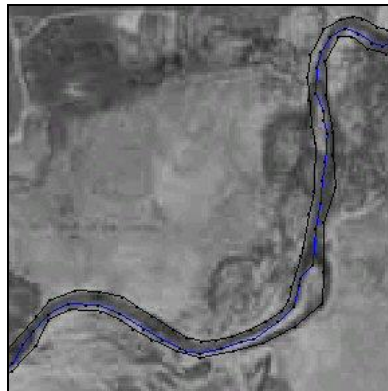

Figure 1 Centerline and bank arcs
1. **Zoom** in close enough around a section of the feature arcs to see three distinct arcs as shown in Figure 1.